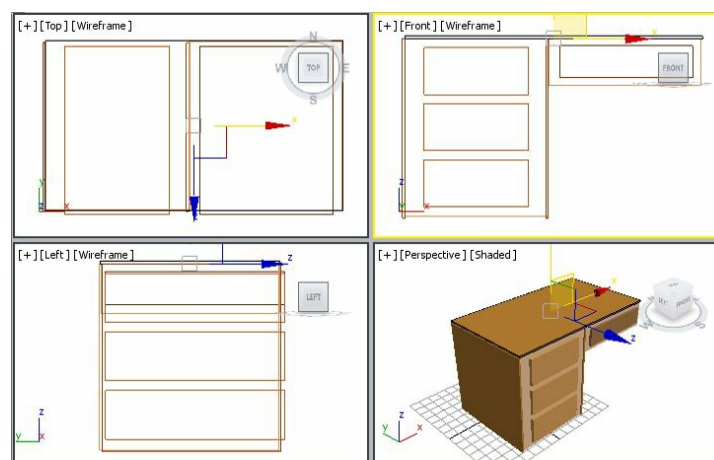

Figure 2-56 Alignment of *upper face* with top of the table
7. Align *upper face* with the top of the table, as shown in Figure 2-56.